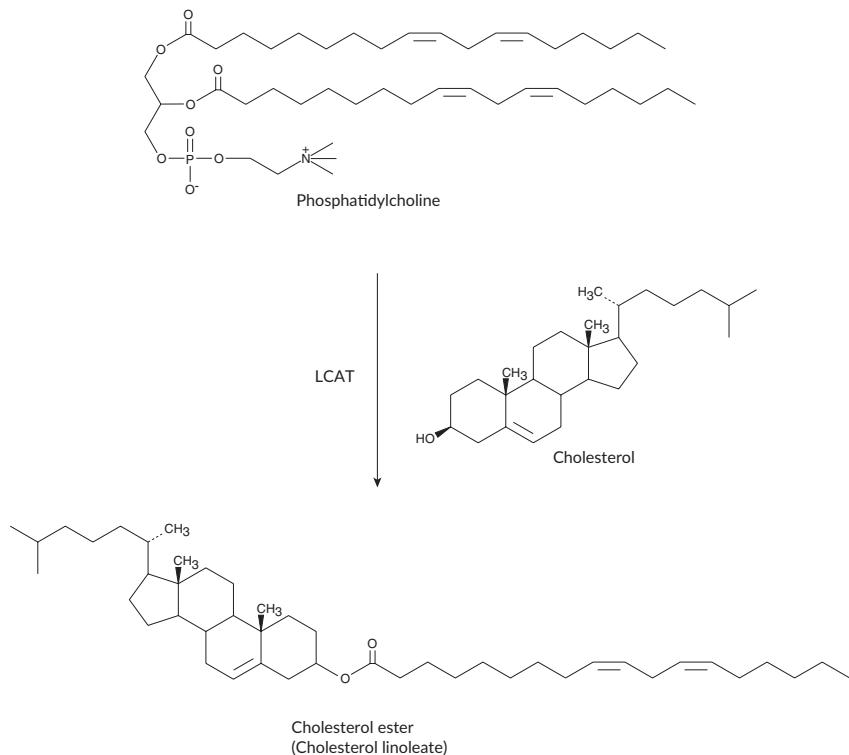

Figure 1.
PC exerts an important influence on the regulation of lipid homeostasis by being one of the major phospholipids in plasma lipoproteins, comprising ~70% of the total phospholipids in the circulation.¹ An enzyme present in circulation, Lecithin:cholesterol acyltransferase (LCAT), removes one fatty acid from PC and attaches it to cholesterol, converting cholesterol into a cholesteryl ester (see Figure 1, on page 6).² The cholesteryl ester is taken up by a high-density lipoprotein and transported back to the liver where the cholesterol is excreted from the body in the form of a bile salt. Elevated levels of cholesterol and cholesteryl esters have been linked to atherosclerosis and heart disease.^{3,4} It has recently been shown that administration of myriocin (an inhibitor of sphingomyelin synthesis) into apolipoprotein E knockout mice dramatically decreased sphingomyelin (SM) levels, increased PC levels, thus decreasing the SM/PC ratio in the plasma, and significantly decreased the atherosclerotic lesion area.^{5,6} The data suggests that SM might play a promoting role, whereas PC might play a preventative role in the development of atherosclerosis. Sensitive and reliable techniques for the quantification of PC will aid in the elucidation of the role that PC plays in various diseases.